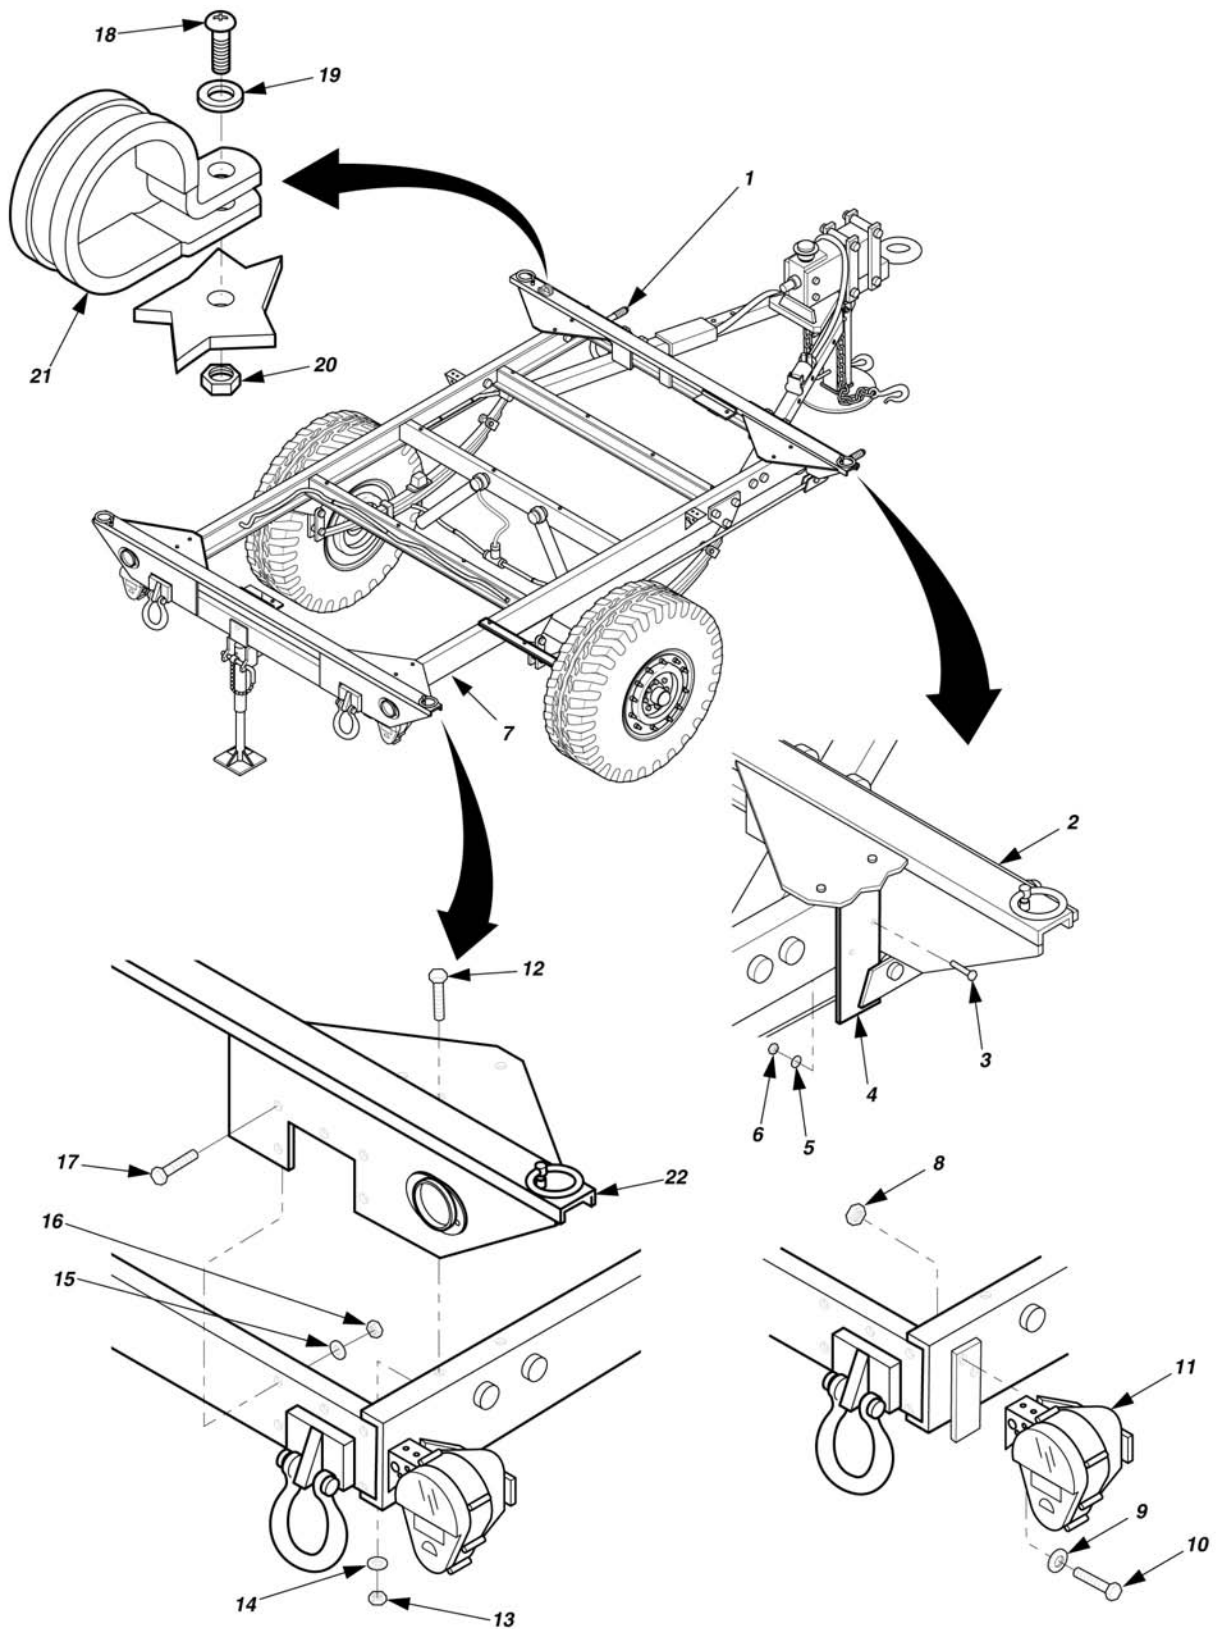

Figure 5-26. AN/MJQ-35 Trailer Lifting Bracket.
- b. Separate the power cable from front lifting bracket (2) by removing nut (20, figure 5-26), flat washer (19), and screw (18) from cable clamp (21).
- b. Separate the tail light bracket (11, figure 5-26) from trailer chassis by removing two self-locking nuts (8), flat washers (9), and screws (10).
- c. Separate the power cable from rear lifting bracket (22) by removing nut (20), flat washer (19), and screw (18) from cable clamp (21).
- d. Remove ten self-locking nuts (16), flat washers (15), and cap screws (17) from rear lifting bracket (22).